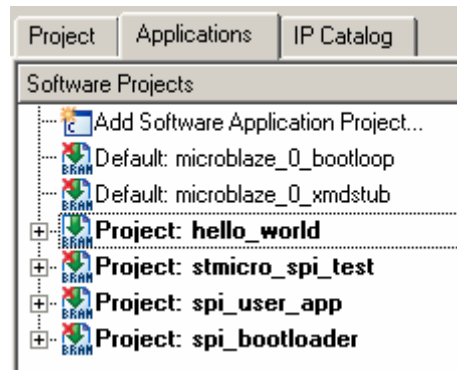

Figure 1 – Project: hello_world Selected for BRAM Initialization
3. Select the *Applications* tab. Select the **hello_world** project for BRAM initialization by right-clicking on the project and selecting **Mark to Initialize BRAMs**. No other applications should be marked for BRAM initialization. The *Applications* tab should look like Figure 1.